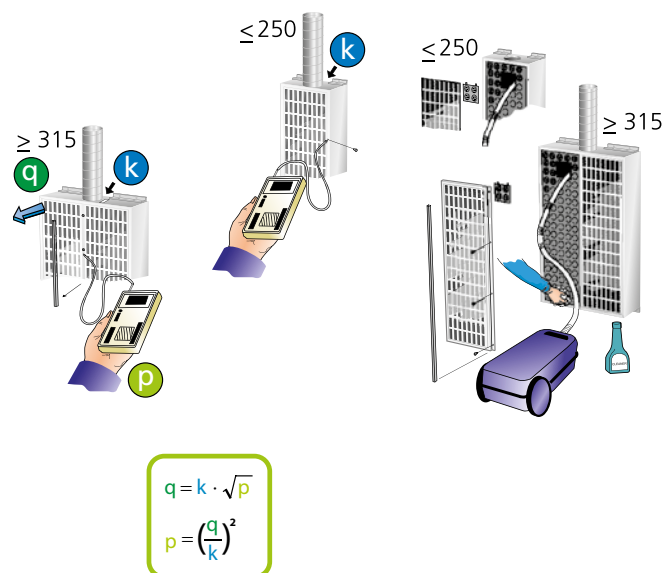

Figure 2. Commissioning. Maintenance.
- Cleaning hatch is in the air distribution plate, see figure 2.
- The K-factor can be found on the diffuser's product labelling, see Figure 2.
- The duct system can be accessed by removing the front panel and the air distribution panel's inspection cover. See Figure 2.